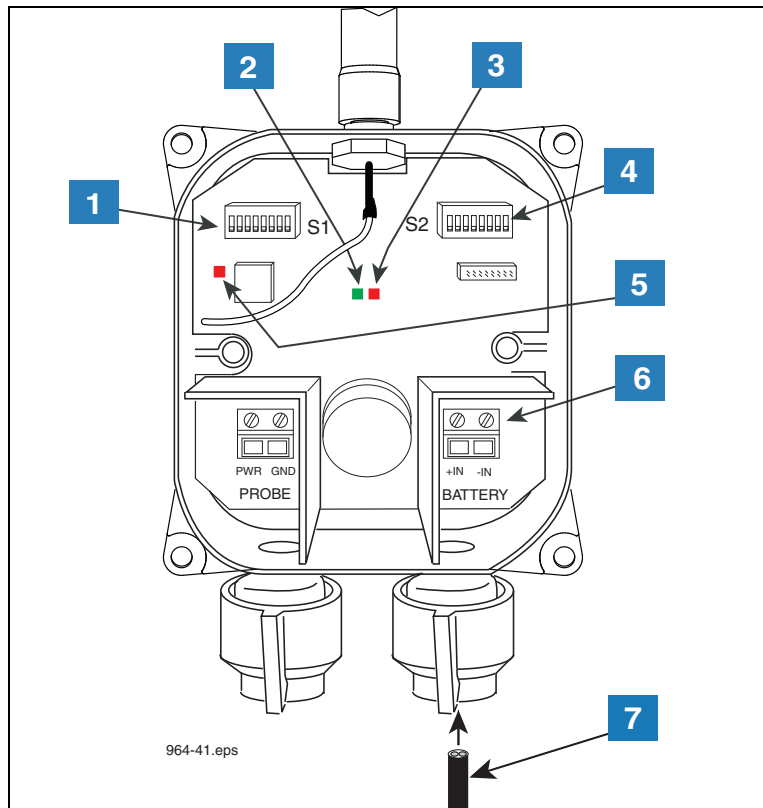

Figure 5. Wiring the Battery Cable to the Transmitter
- e. On the Transmitter connect the battery pack/DC power cable to the BATTERY terminal block (white to +IN and black to -IN) as shown in Figure 5.
LEGEND FOR NUMBERED BOXES IN Figure 5
- a. Connect the first Transmitter's battery cable to a battery pack; noting the Red LED should be flashing momentarily then followed by the Green LED (refer to item 2 and 3 in Figure 5). Since there is no Sensor connected, the two LEDs should be flashing. This is an indication a Sensor communication error and is acceptable at this step.